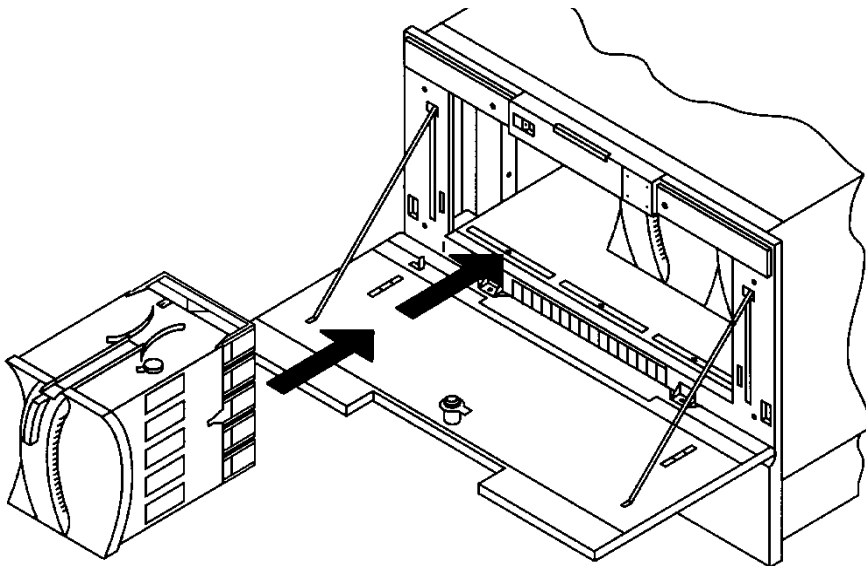

Figure 3-8. Inserting a Magazine Through the Front Access Door
8. Insert the removable magazine so it lines up with the arrow on the label inside the library, the handle is facing out toward the front of the library, and the tapes are facing toward the inside of the tape library (see Figure 3-8). The magazine should "click" into place.